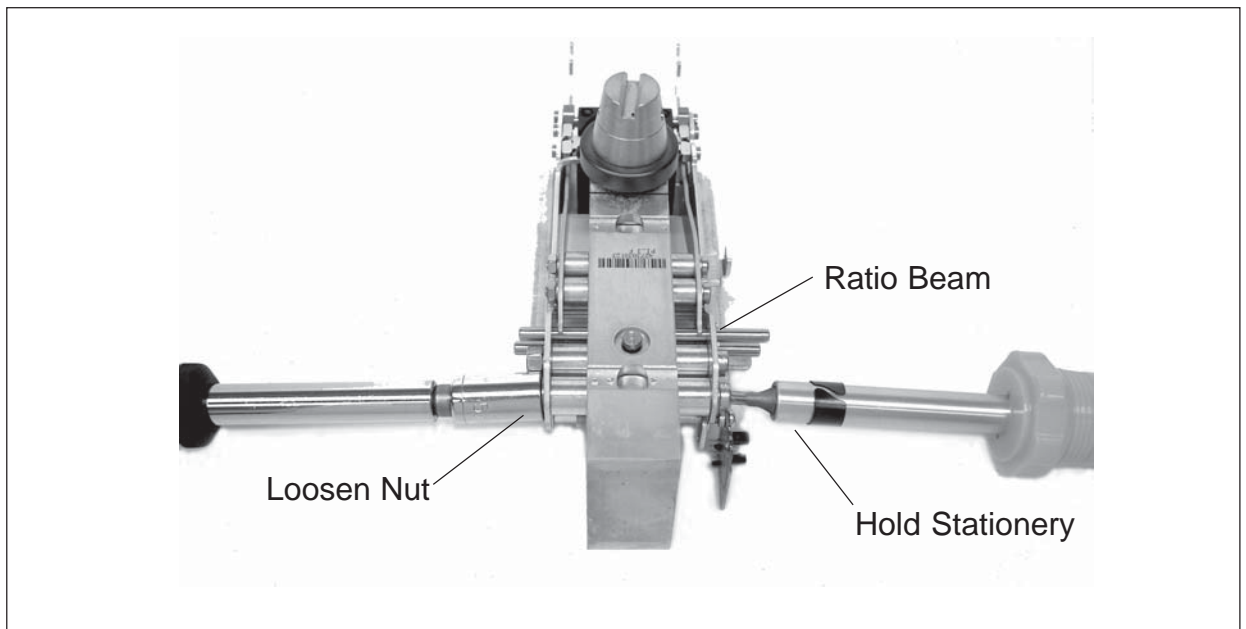

Figure 3-46. Loosening Ratio Beam Nuts.
12. Refer to Figure 3-46 while holding the screws, tighten the nuts on the Ratio Beam Arm.